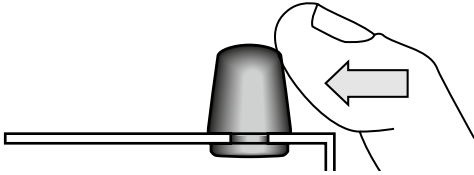

fig.2: removing the rubber legs
- When mounting the appliance in a 19"-rack, you can remove the provided rubber legs. Apply lateral pressure to the legs to remove them from the appliance (fig.2).